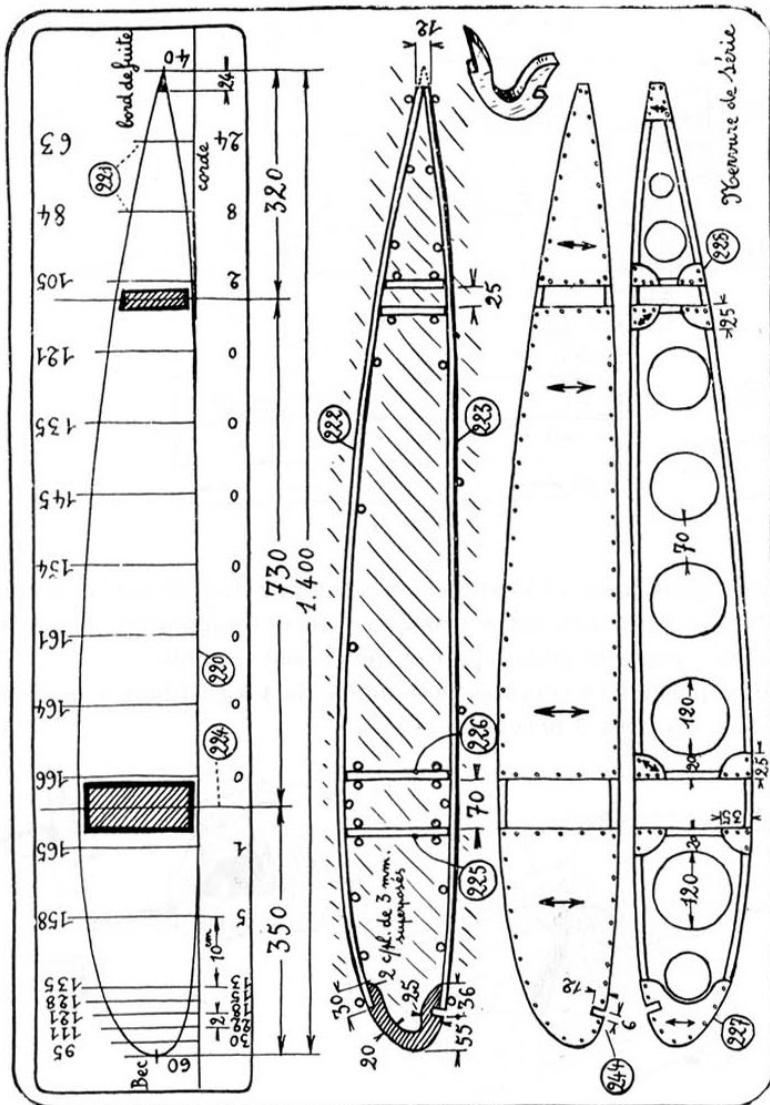

Figure 4.3: The standard rib pattern
Draw a straight line (220) (fig. 4.3) 50mm above the bottom edge.